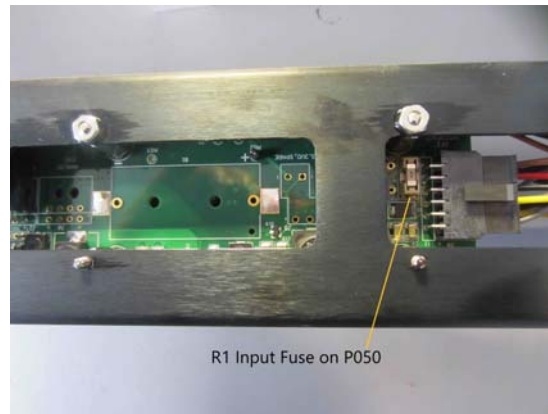

Figure 47: R1 fuse on the Power Supply board (P050).
2. If that fuse is functional, then check the 1 A fuse, labelled "R1", that is located on the underside of the power supply board (Figure 47). To check while the fuse is installed, first disconnect the main battery and then use your multi-meter to measure the resistance of the fuse. It should be greater than 0 Ω .